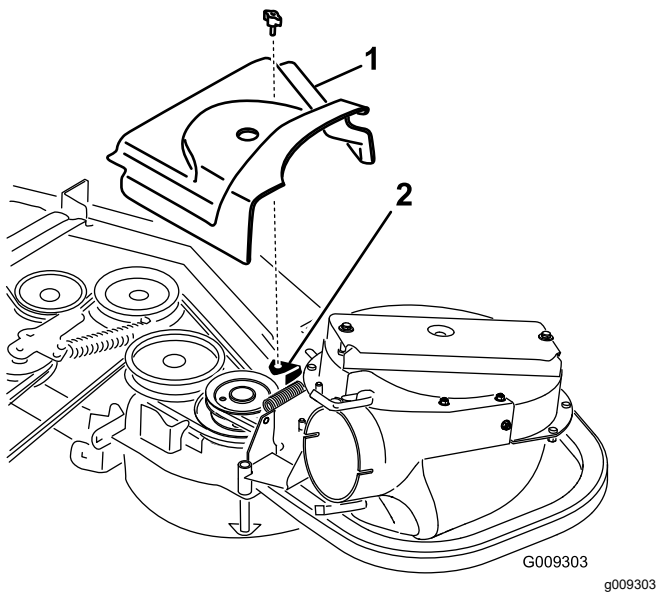

Figure 31
2. Install the new belt cover so that the notches on both sides go over the belt-cover supports and secure the latch (Figure 30 or Figure 31).